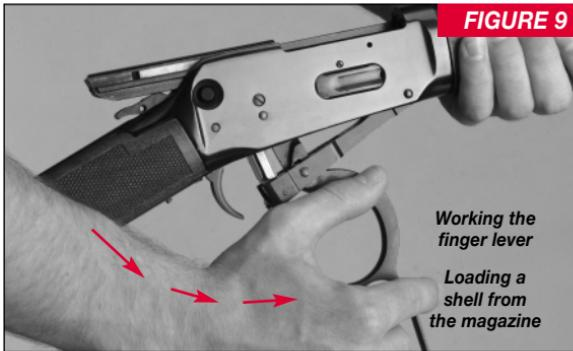

FIGURE 9
- (2) load the chamber by transferring a shell that was previously loaded into the magazine (Figure 9) to the chamber by operating the finger lever.